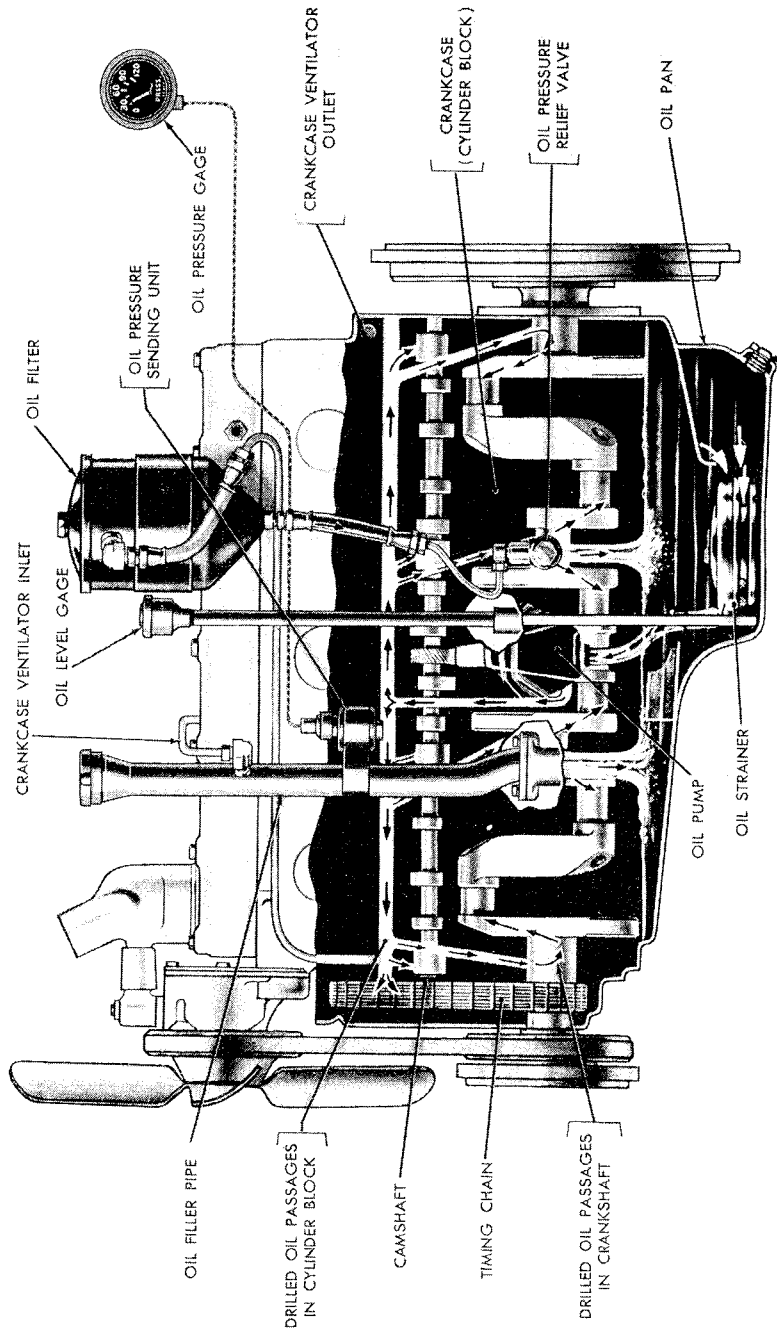

Figure 7. Engine oiling system.
*a. Engine Oiling System* (fig. 7). The engine is lubricated by oil drawn from the oil pan by a rotor type oil pump and forced under pressure through drilled passages in the cylinder block to the crankshaft and camshaft bearings. Passages, drilled in the crankshaft, allow oil to be forced through the crankshaft bearings and to the connecting rod bearings. A limited amount of oil is forced from the camshaft front bearing to the timing chain case to lubricate the timing chain and sprockets. Cylinder walls, pistons, piston pins, and valve tappets are lubricated by oil spray from the connecting rod bearings. The camshaft thrust plate is lubricated through an oil passage in the camshaft.
*b. Oil Filter* (fig. 7). The engine is provided with an oil filter which has a replaceable element. This element should be replaced periodically, as prescribed, or more often, if there is dirt or sludge on the filtering element or in the engine oil.
*c. Oil Pressure Gage* (fig. 7). An oil pressure gage mounted on the instrument panel and calibrated in pounds per square inch, is provided to indicate whether the lubrication system is operating properly. The gage should register 15 psi or higher at idling speeds, and approximately 50 psi at higher speeds. The gage operates by electricity. The sending unit is mounted on the left side of the cylinder block.
*d. Oil Pressure Relief Valve* (fig. 7). Engine oil pressure is controlled by a relief valve mounted on the left side of the engine below the starter and consists of a plunger type valve, spring, gasket, and plug. The relief valve spring controls the maximum oil pressure to 50 psi and circulation through the oil filter starts at approximately 46 psi if the temperature of the oil is above 135° F. The design of the oil relief valve shuts off circulation to the oil filter at low pressure and permits circulation through the filter slightly before the valve
*e. Oil Strainer (fig. 7).* A floating type oil strainer, located at the lowest point in the oil pan, is attached to the oil pump suction pipe. The strainer is pivoted so that it is free to float near the top of the oil level. Due to the pivoting action of the strainer, clean oil is drawn from the top of the oil level, while sediment or other foreign particles settle to the bottom of the oil pan.
*a. Oil Pan (fig. 7).* The oil pan is attached to the bottom flange of the cylinder block by cap screws. Gaskets are used at the front and rear of the oil pan and between the mating surfaces of the oil pan and the cylinder block. This prevents oil leakage and also possible entry of dirt or foreign matter into the crankcase.
*b. Oil Level Gage (fig. 7).* A bayonet type oil level gage is located on the left side of the cylinder block and provides a means of determining the amount of oil in the crankcase. The oil level should be checked at frequent intervals. In order to obtain a proper reading, the gage should be withdrawn, wiped off, reinserted carefully, and again withdrawn. A correct reading cannot be obtained if the gage is withdrawn while the engine is running, nor immediately after the engine is stopped, as sufficient time must be allowed for the oil in the various parts of the engine to drain down into the oil pan.
*c. Capacity of Oil Pan.* The capacity of the engine lubricating system is 5 quarts (refill) or 6 quarts if the oil filter has been drained or replaced. The oil pan is filled through the oil filler pipe (fig. 7) located at the left front side of the cylinder block.
*d. Crankcase Ventilator.* A crankcase ventilating system is provided to remove harmful fumes from the crankcase and to prevent condensation of the vapors resulting from combustion. Fresh air for the ventilating system enters the crankcase through a tube attached to the carburetor air cleaner elbow and extending to the oil filler pipe. Another tube, attached to the crankcase ventilator outlet (fig. 7) and extending to the intake manifold (at which point a one way check valve is located) completes the ventilation circuit. The controlled suction from the intake manifold causes the air to circulate through the crankcase from the air cleaner and thus remove the undesirable vapors.